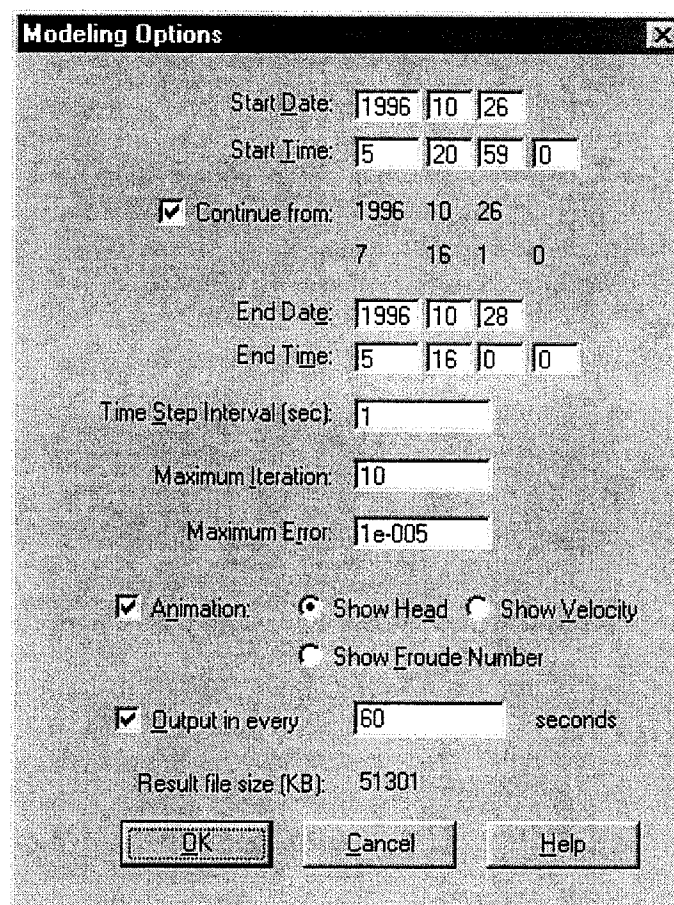

Fig. 6. 1. Modeling Options Dialog Box.
1. Click the **Project | Run** command to bring up the **Modeling Options** dialog box (see Fig. 6. 1). This dialog allows you to specify the parameters of how the simulation will run.
Just like showing a set of slides, **Result Play** shows the whole dynamic process of the simulation in a series of plots. The time interval between plots is fixed, and was set in **Modeling Options** (the Output Time Interval in Fig. 6. 1.) when you ran the model. You can play the results for **Water Depth**, **Water Elevation**, **Velocity**, or **Froude Number** by clicking the corresponding toolbar. The following steps are taken to view the simulation process: